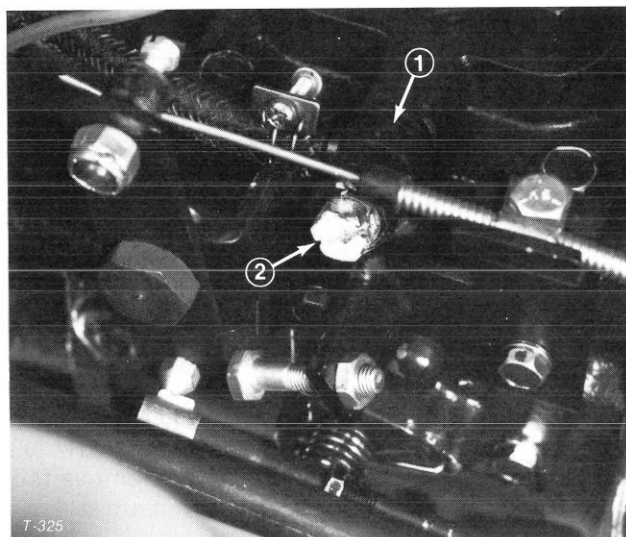

Figure 28
7. Open the air bleed screw on the fuel injection pump (Fig. 28) with a 12 mm wrench.